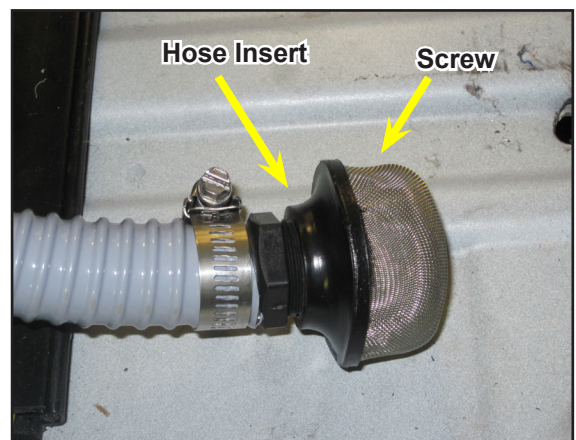

Figure 9. Install Hose Insert and Filter Screw on Longer (Passenger-Side) Hose
6. Install the hose insert and filter screen onto the end of the longer hose (see Figure 9).